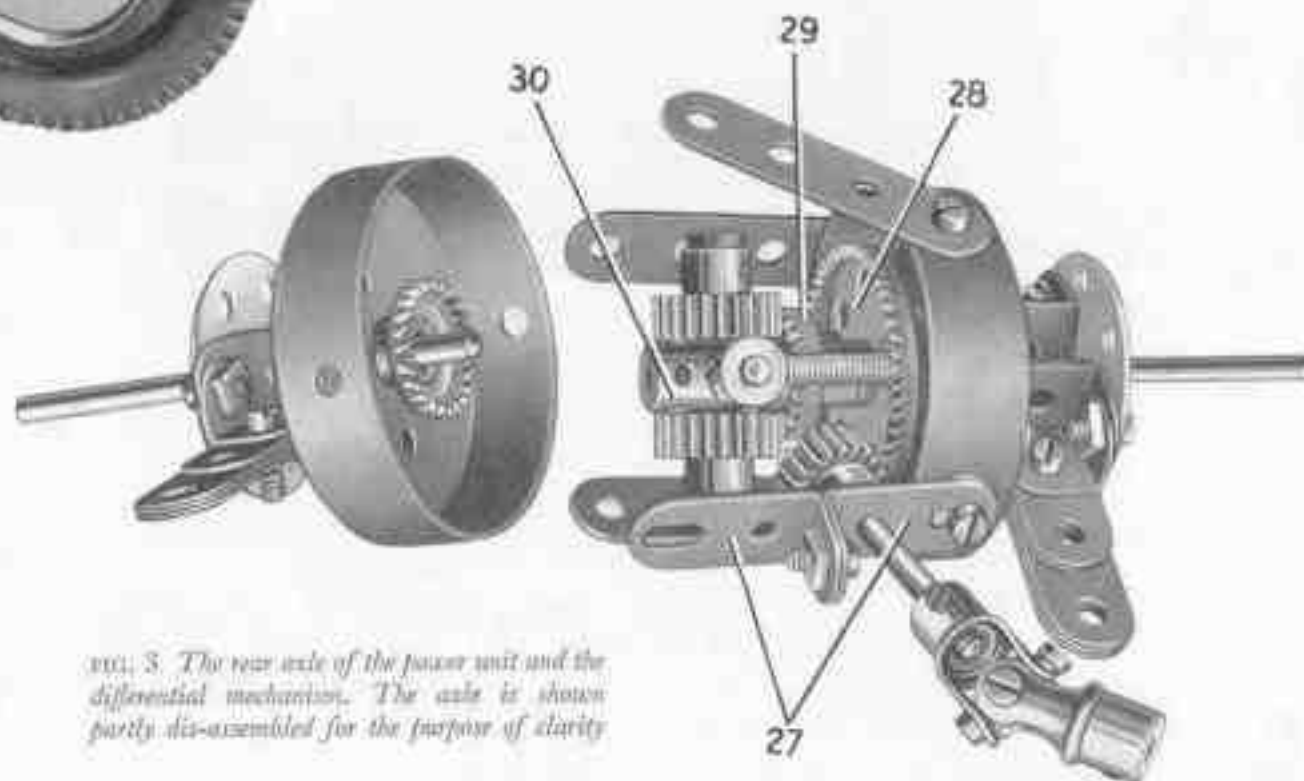

FIG. 3 The rear axle of the power unit and the differential mechanism. The axle is shown partly dis-assembled for the purpose of clarity
**Rear Axle and Differential (Figs. 3 and 7)**
Each half of the rear axle casing (Fig. 3) consists of a Boiler